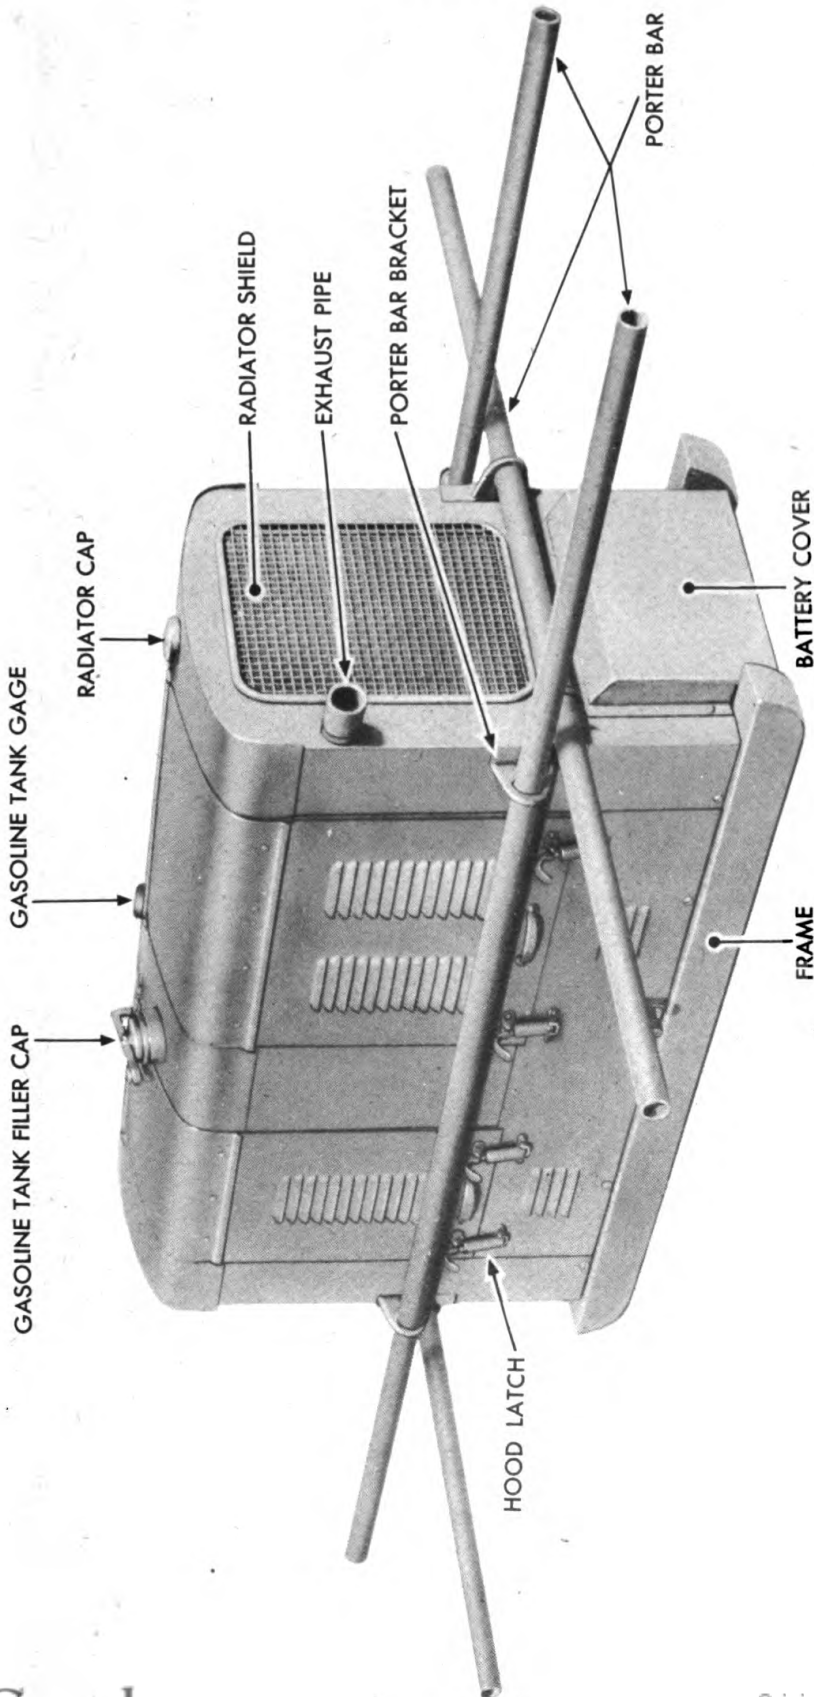

Figure 1 — Generating Unit M5 — Porter Bars in Place — Right Front View
a. The Generating Unit M5 (figs. 1, 2, and 5) is a gasoline engine driven a-c generator, delivering 3-phase power at 125 volts, 60 cycles, with provision for supplying power at 130 volts and 50 cycles by changing the position of links on the subpanel and reducing the speed of the engine. It is rated at 3 KVA.
i. Each generating unit is furnished with four porter bars to facilitate lifting and carrying the units a short distance by manpower. Collars are being designed to fit on the bars to prevent slipping. Proper positioning of the bars is shown in figure 1.